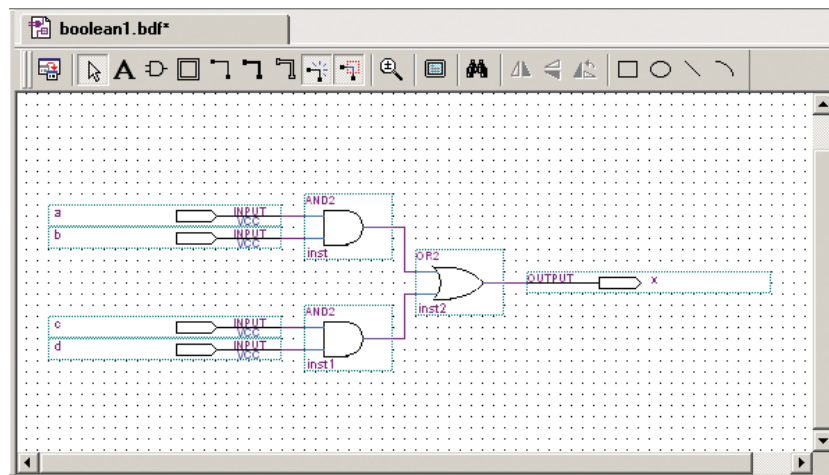

Figure 4–26 The wired *bdf* file.
15. We will now make the circuit connections. As you move the mouse pointer close to the end point of any symbol input or output, the pointer automatically becomes a *cross-hair*. This is called the *Smart Drawing Tool*. Press and hold the left mouse button as you drag a connection line from the *a-input* symbol to the input of the first AND gate. Repeat for all of the connections so that the *bdf* file looks like that shown in Figure 4–26.